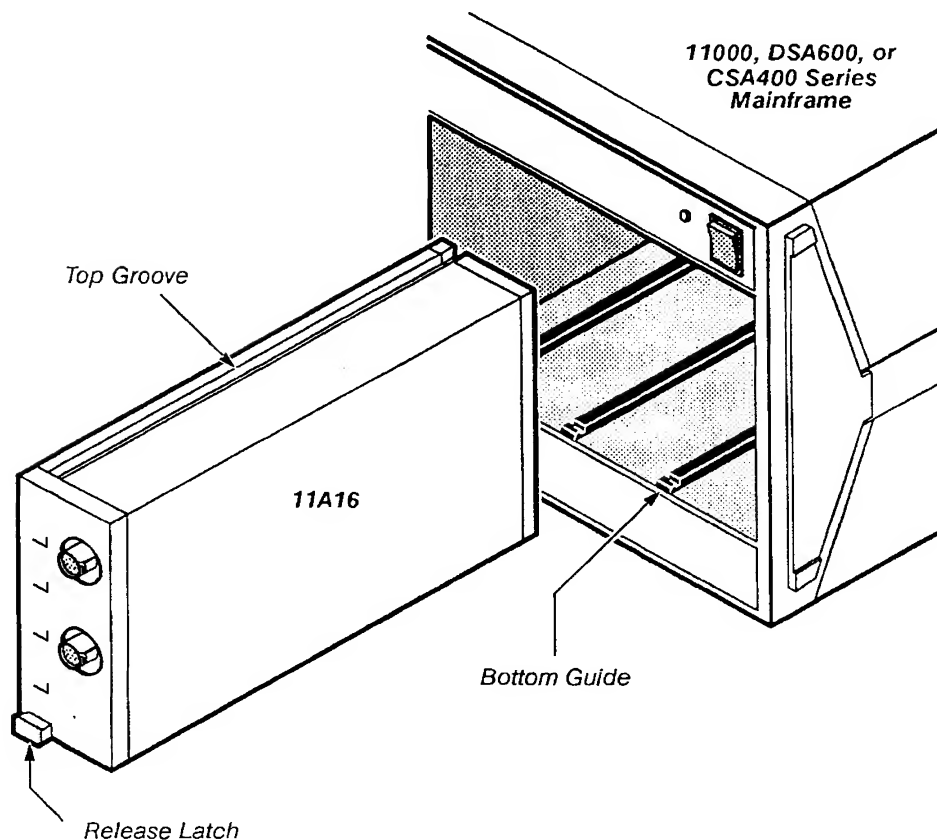

Figure 1-1 — Installing and Removing the 11A16
| List of Illustrations | Figure 1-1 | Installing and Removing the 11A16 | 1-4 |
- ☐ Step 2: Pull the release latch (see Fig. 1-1) to disengage the 11A16 from the mainframe.